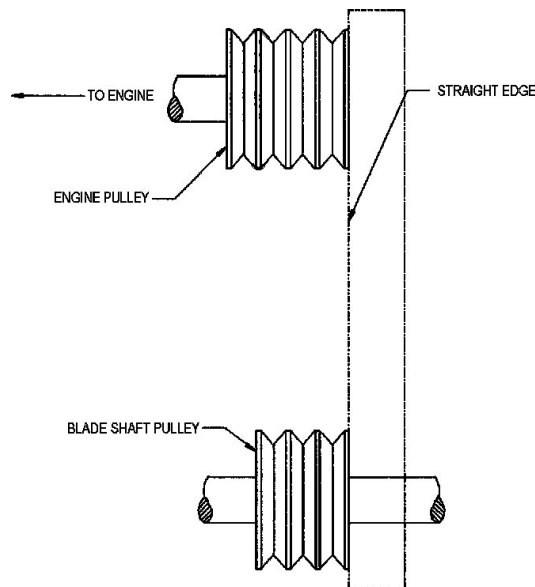

Figure 1
6. To check alignment, use a steel straight edge. See Figure 1.